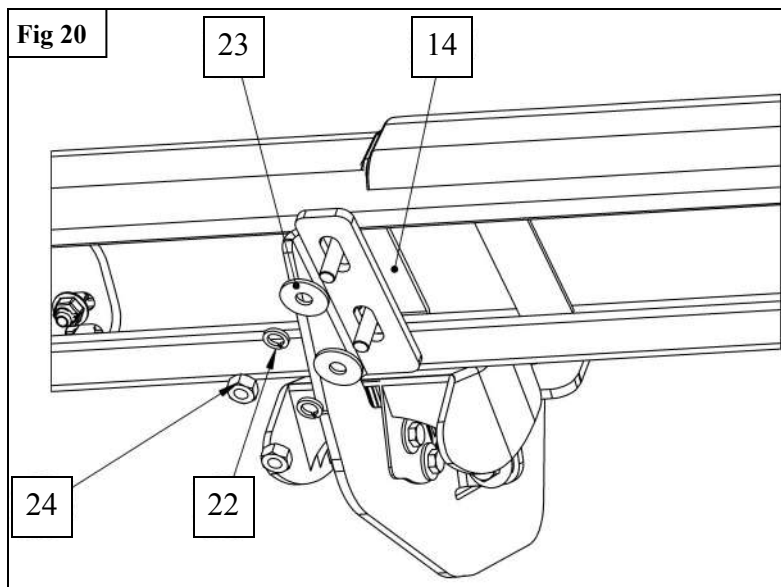

Fig 20
9. Installation of the step boards will utilize the supplied M8 hardware with Plate Adapters (14) for all brackets excluding the Link Brackets (4). The Link Brackets (4) will use the supplied M10 hardware. See **Figures 20 and 21**.